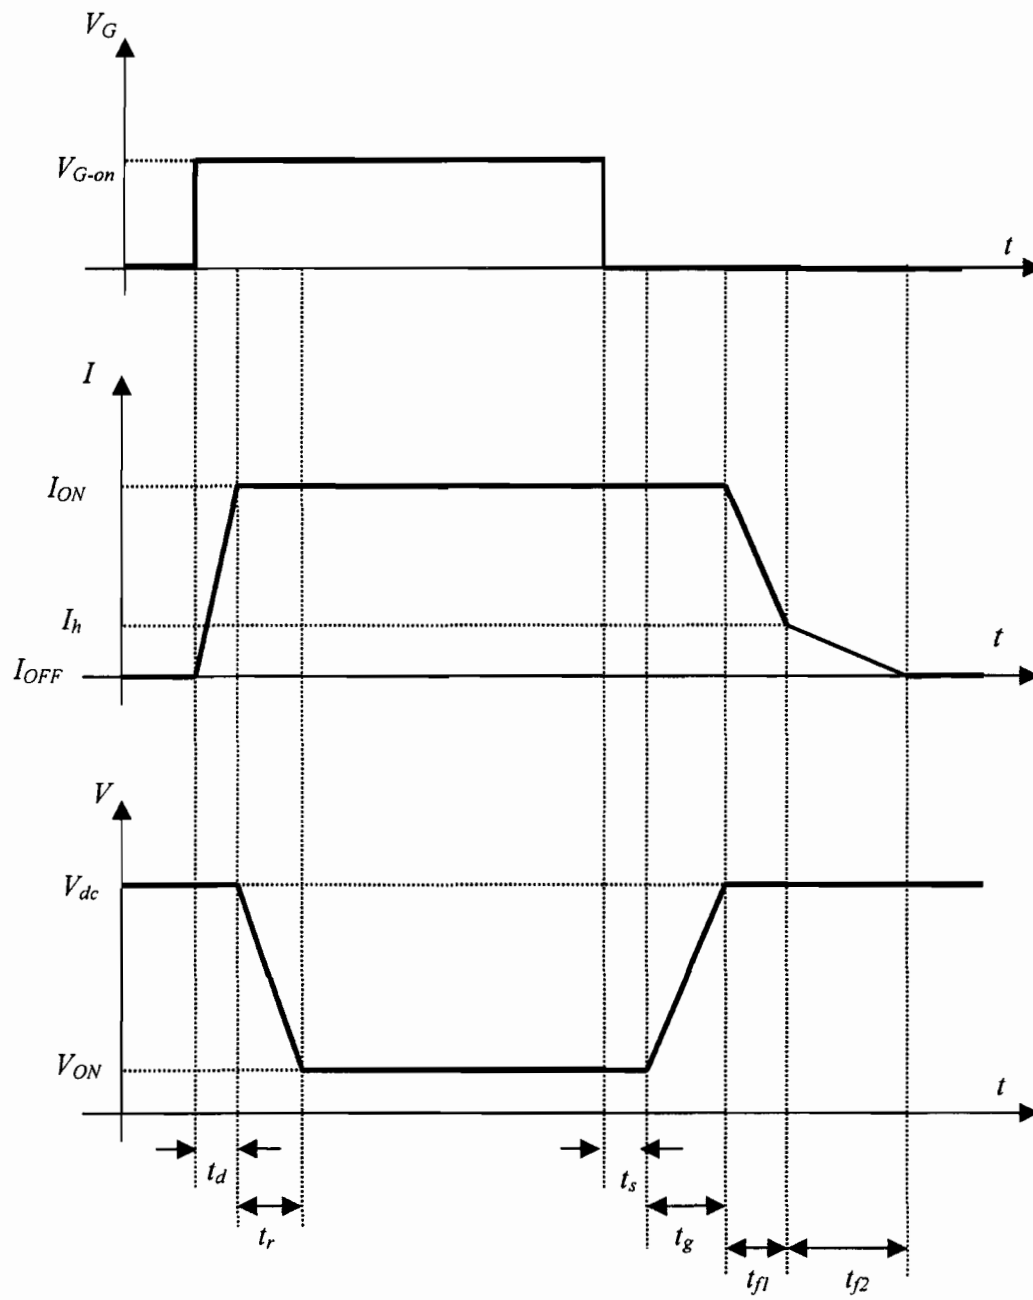

Fig. 2
(b) Assume now that the switch is not ideal and its waveforms are as shown in Fig. 2. The switch operates at a switching frequency of 100 kHz with a duty cycle $D = 50\%$. The other parameters are: $V_{dc} = 400$ V, the off-state leakage current I_{OFF} can be neglected ($I_{OFF} = 0$) the on-state current $I_{ON} = 1$ A, the on-state voltage $V_{ON} = 3$ V, the turn-on delay time $t_d = 0.1$ μ s, the rise time $t_r = 0.2$ μ s, the turn-off delay time $t_s = 0.1$ μ s, the turn-off voltage growth time $t_g = 0.3$ μ s, the fast current fall time $t_{f1} = 0.1$ μ s and the slow current fall time $t_{f2} = 0.5$ μ s. Assume the current at the end of the fast current fall is $I_h = 0.3$ A.
- (i) What device is likely to have the waveforms shown in Fig. 2? Justify your choice. What is the significance of the current I_h ? [20%]